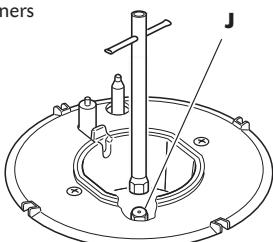

Fig. 23
- Using a wrench, substitute the nozzle injectors **J** (Figs. 23 - 24) with those most suitable for the kind of gas for which it is to be used.